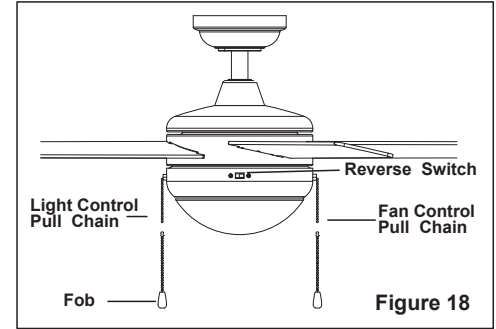

Figure 18
**Step 10.** Connect the fobs to the appropriate pull chains as shown in Figure 18.